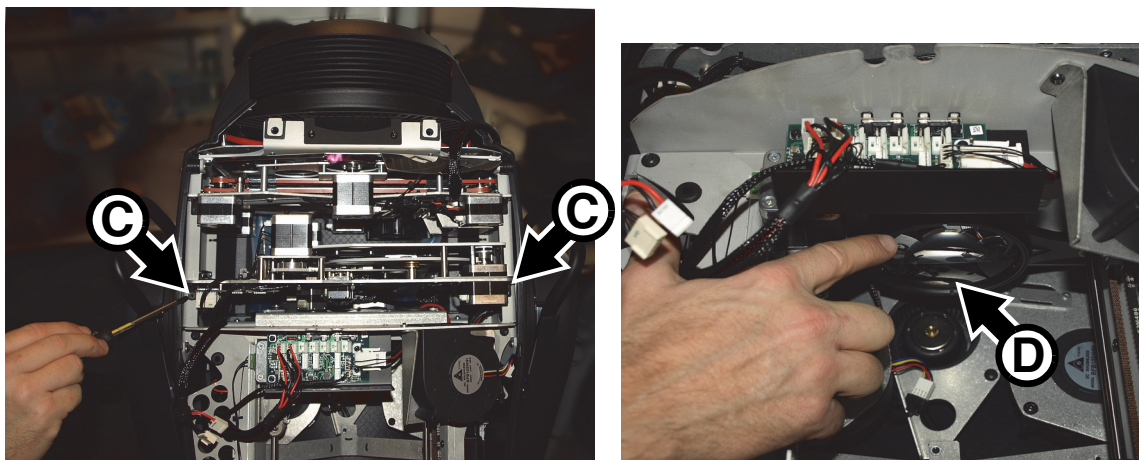

Figure 21: Effects module retaining screws and focus car
5. See Figure 21. Remove the two Torx 20 effects module retaining screws **C** and slide the focus car **D** fully towards the front of the fixture.